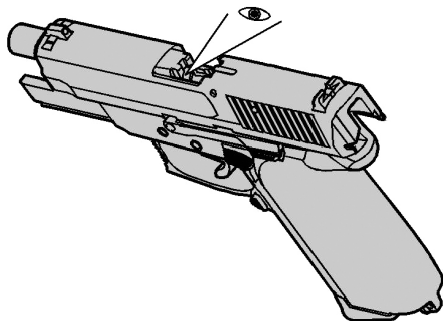

Fig. 4
5. Check visually and manually with a tool that the round was ejected and that no other round is chambered (see Fig. 4).